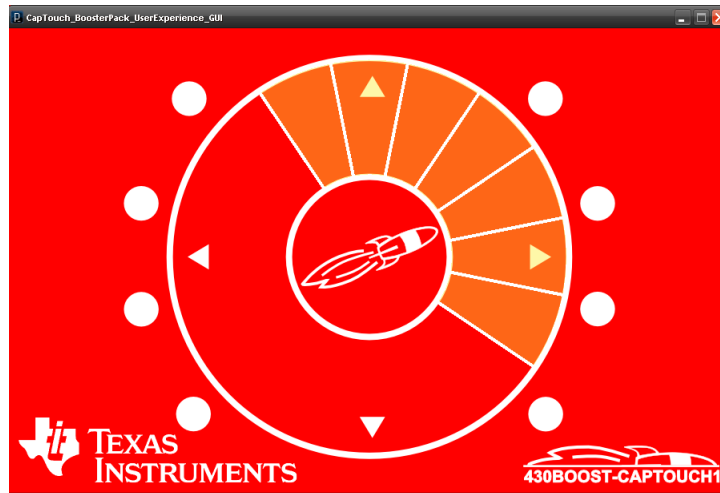

**Figure 3. PC GUI in Sleep Mode**
2. At start-up or after long period of inactivity, the device enters sleep mode and the GUI is disabled (grayed out) to indicate sleep mode (see Figure 3). Upon proximity sensor detection (for example, wave your hand approximately 3 to 5 cm above the BoosterPack) the device returns to active mode and enables the GUI.